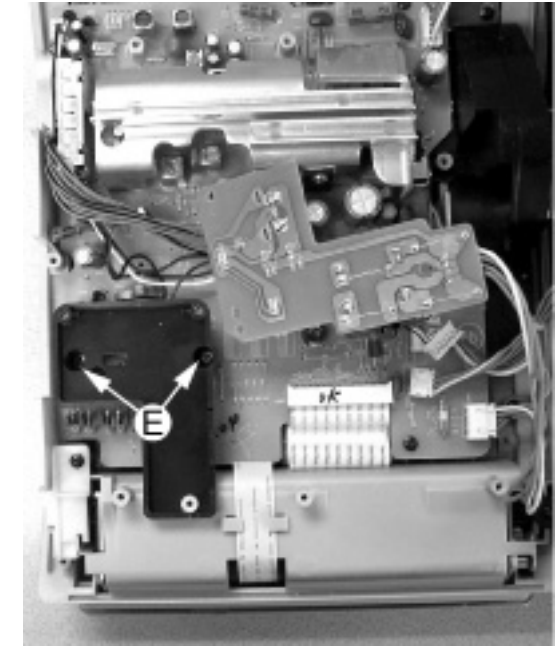

Figure 4
- 5) Loosen 2 screws E to remove the Bracket Jack Board as shown in Figure 4.